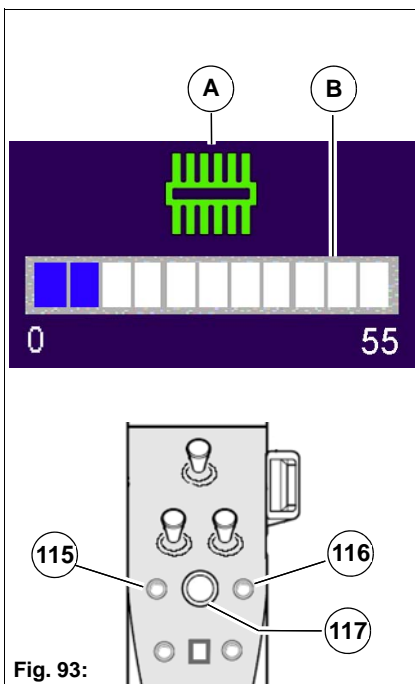

Fig. 93:
- Briefly pressing the quick select buttons **Fig. 93-115** or **Fig. 93-116** switches the main consumer on/off and opens the adjustment menu **Fig. 93-A** of the main consumer.
- Rotating the turn-push knob **Fig. 93-117** changes the value of the bar chart **Fig. 93-B**. One bar corresponds to 5 l/min and is divided into 4 increments (1.25 l/min). The maximum position corresponds to 55 l/min.